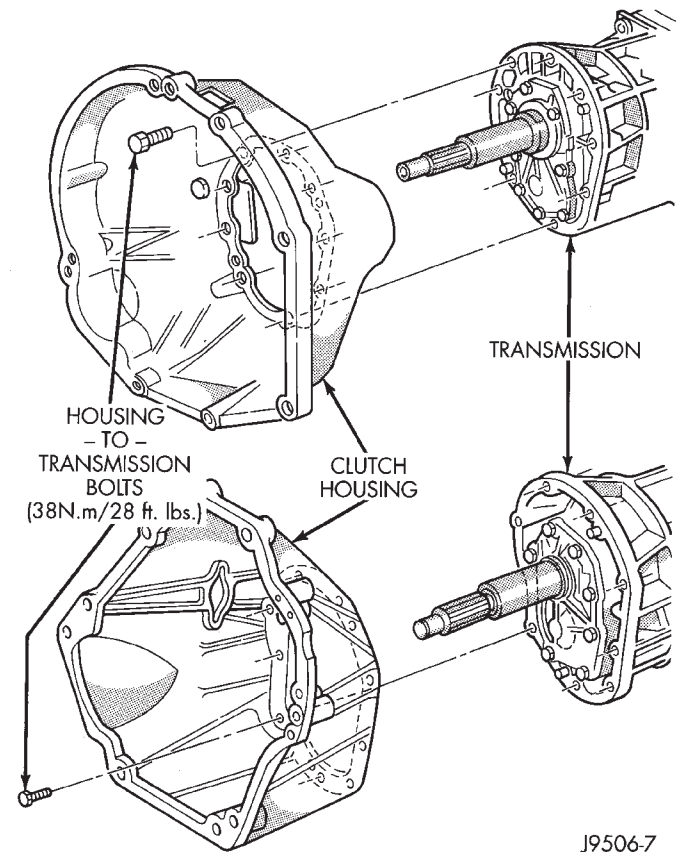

Fig. 9 Clutch Housing
- (24) Remove clutch housing brace rod.
- (25) Remove clutch housing-to-engine bolts.
- (26) Pull transmission jack rearward until input shaft clears clutch. Then slide transmission out from under vehicle.
- (27) Remove clutch release bearing, release fork, and retainer clip.
(28) Remove clutch housing from transmission (Fig. 9).
- (1) Install clutch housing on transmission. Tighten housing bolts to 37 N·m (27 ft. lbs.) torque.
- (2) Lubricate contact surfaces of release fork pivot ball stud and release fork with high temp grease.
- (3) Install release bearing, fork, and retainer clip.
- (4) Position and secure transmission on transmission jack.
- (5) Lightly lubricate pilot bearing and transmission input shaft splines with Mopar® high temp grease.
- (6) Raise transmission and align transmission input shaft and clutch disc splines. Then slide transmission into place.
- (7) Install and tighten clutch housing-to-engine bolts to 38 N·m (28 ft. lbs.) torque (Fig. 9). **Be sure the housing is properly seated on engine block before tightening bolts.**
- (8) Install clutch housing brace rod.
- (9) Lower transmission approximately 7–8 cm (3 in.) for access to shift tower. Be sure transmission is in first or third gear.
- (10) Reach up and around transmission and insert shift lever in shift tower. Press lever retainer down-